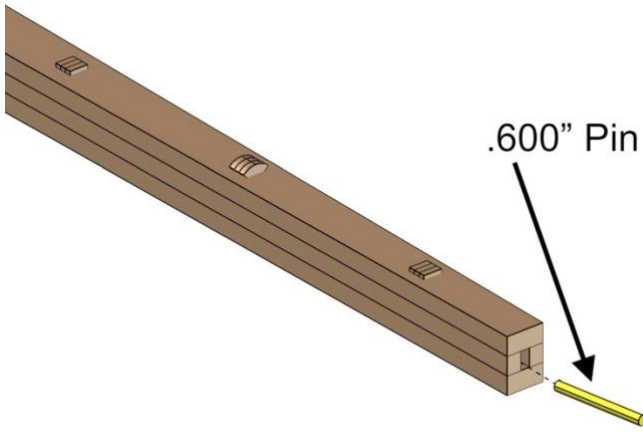

Fig. 58
- Insert a .600" Pin, as shown in *Fig. 58*.